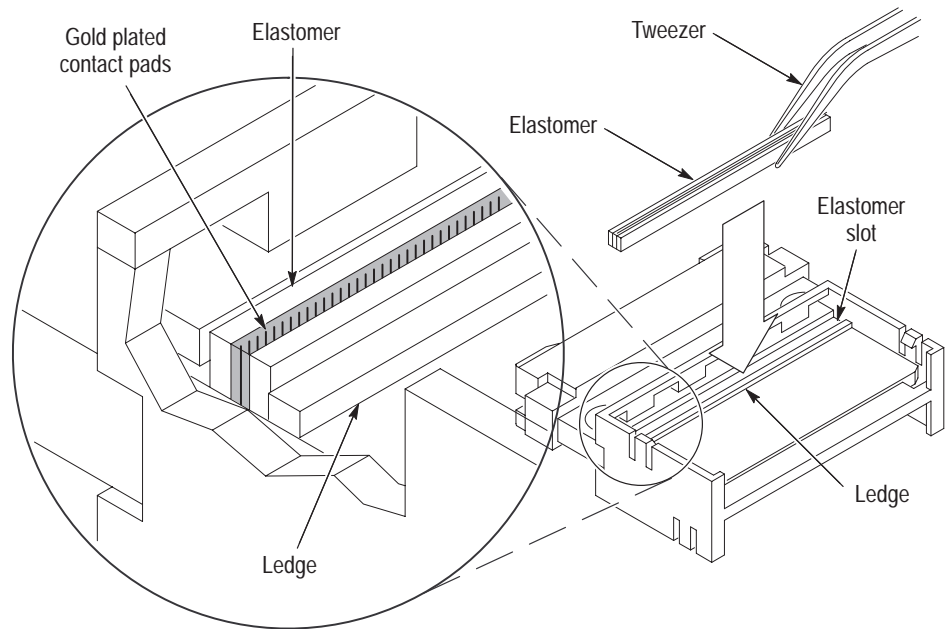

Figure 19: Positioning the elastomer connector
3. Using tweezers on the flat areas adjacent to the gold plated contact pads, remove the elastomer connectors. See Figure 19 on page 26.
4. Using tweezers on the flat areas on both sides of the gold plated contact pads, carefully orient the elastomer connector, and place it in the elastomer slot in the board holder as shown in Figure 19.